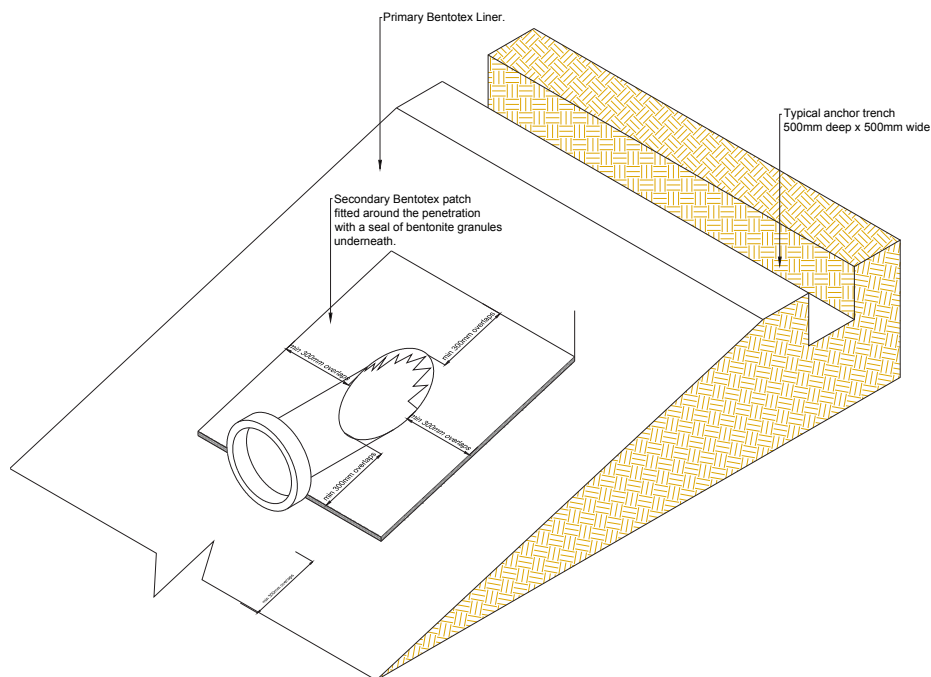

Figure 4b. Isometric view of completed Horizontal Pipe Penetration
- 8.4 A secondary collar of GCL should be placed around the penetration as shown in Figure 4b. It is helpful to first trace an outline of the penetration on the GCL and then to cut a “star” pattern in the collar to enhance the collar’s fit around the penetration.